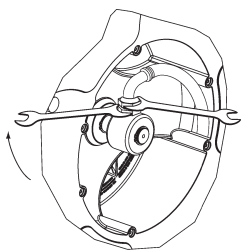

FIG 16.
2. Unscrew the hose from the swivel using two spanners (Fig. 16).